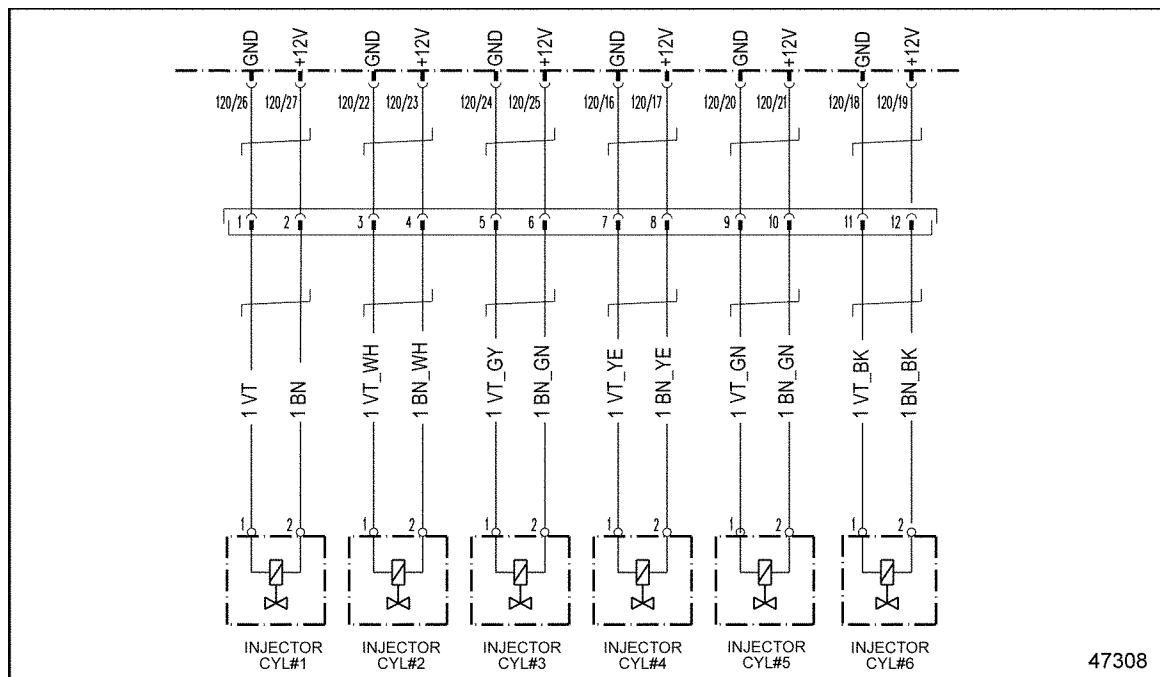

Figure 24-1 MBE 900 Injectors
4. Measure the resistance between pins 1 and 2 on the valve cover side of the connector. See Figure 24-1.